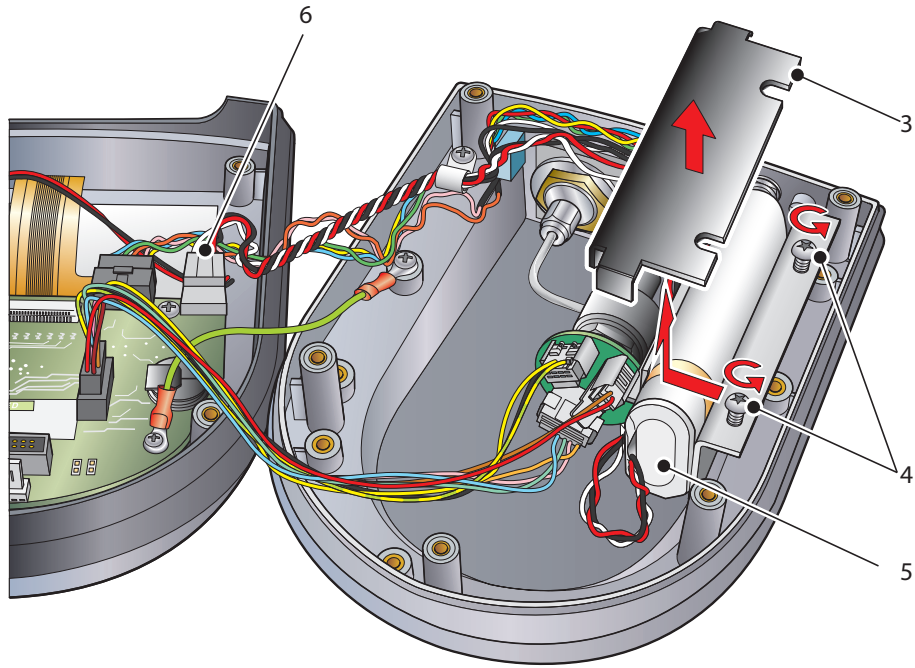

Figure 4 *Remove Battery Clamp*
2. Loosen the battery clamp retaining screws (4) and lift the battery clamp (3) clear as shown in *Figure 4*.
3. Release the clip on top of the polarized battery connector (6), on the main MDM PCB.
4. Lift the battery (5) clear.
1. Fit the battery connector socket section (6) back into the plug section on the PCB, push the two halves of the connector together and ensure that they lock together.
2. Place the replacement battery (5) in the position shown in *Figure 4*.
3. Re-fit the battery clamp (3) and tighten both fixing screws (4).